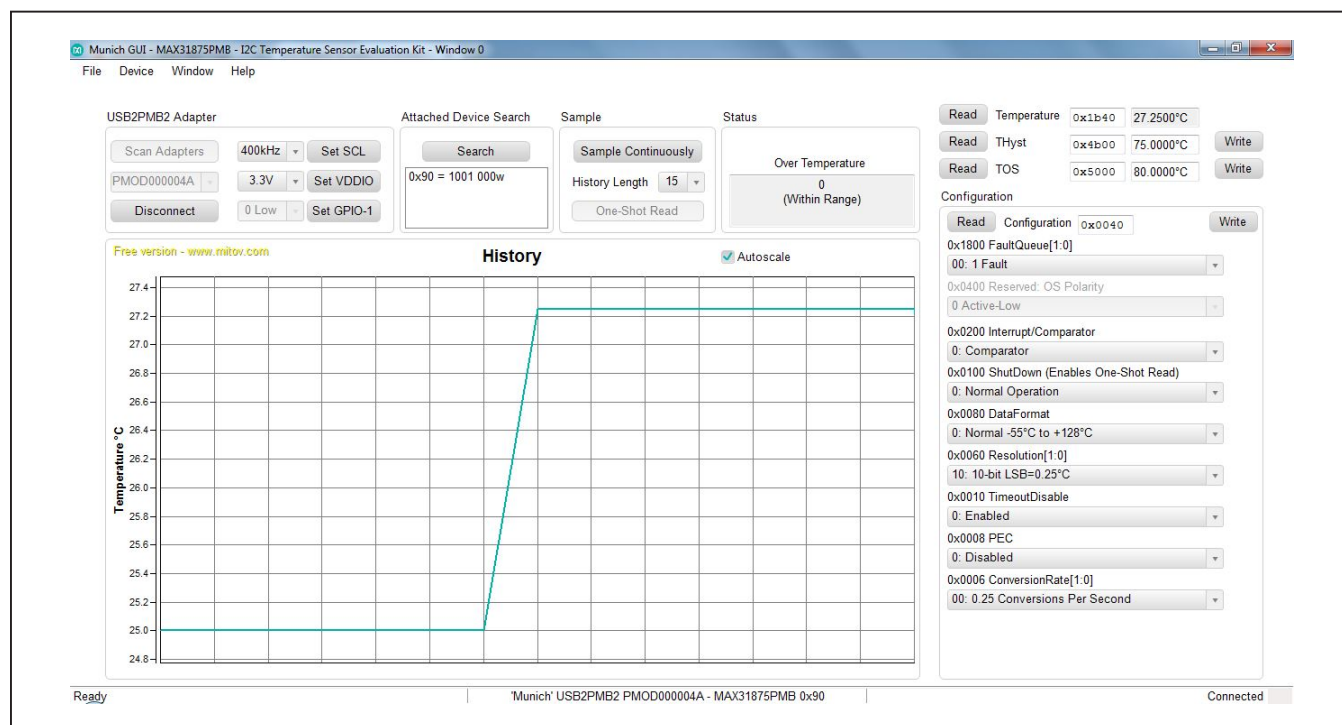

Figure 1. MAX31875 EV Kit Main Window
- 5) Click the **Scan Adapters** button, then click the **Connect** button. See Figure 1.